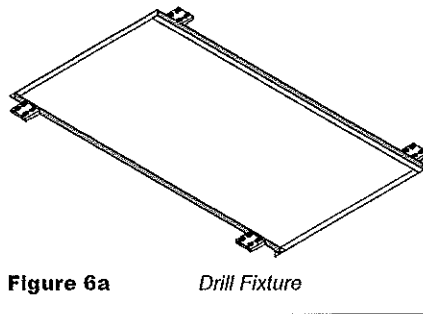

Figure 6a
- C. Unhook the motor retention spring (Fig. 6A).
- 1b. A Drill Fixture (FIG 6a, page 3) is used to pre-drill the mounting holes for the end brackets and maintain even spacing between the upper and lower gear rack arms. Even spacing between the gear rack arms and the location of the end brackets is critical for proper operation of the slide out. Drill Fixtures are reusable from system to system. Drill Fixtures are not supplied with system and must be purchased from Power Gear to aid in assembly and reduce installation time.